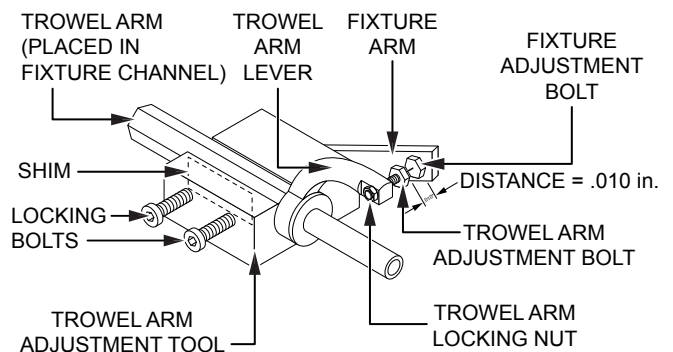

Figure 29. Trowel Arm Adjustment Tool
1. Unscrew the locking bolts on the adjustment tool and place a trowel arm (with lever attached) into the fixture channel as shown in Figure 29.
3. A thin shim (Figure 29) may be required to cover the blade holes on the trowel arm. Be sure to align the trowel arm adjustment bolt with the fixture adjustment bolt.
4. Tighten the locking bolts (Figure 29) to secure the trowel arm in place.
5. Adjust the bolt distance shown in Figure 29 to match one of the arms. The other arms will be adjusted to match this distance.